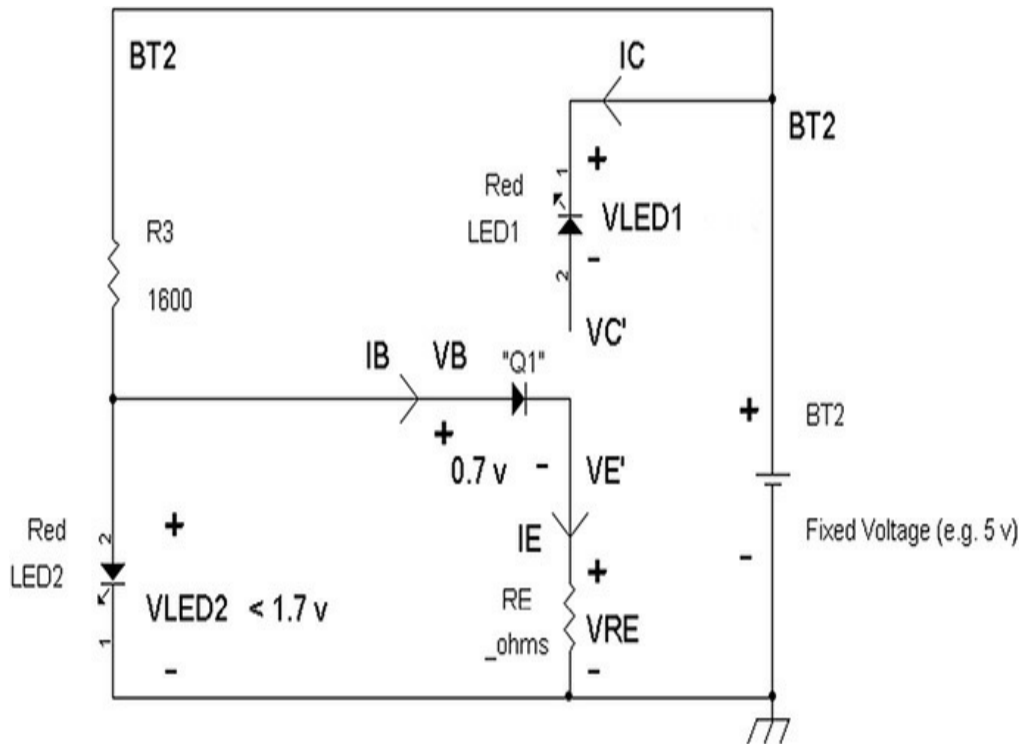

FIGURE 7.20 An equivalent circuit to Figure 7-19 using a diode “model” in place of Q1.
BT2. See Figure 7-20.
- Diode voltage of "Q1" = 0.7 volt (see Figure 7-20)